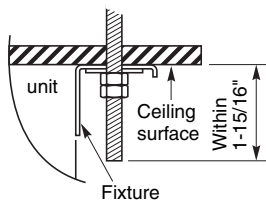
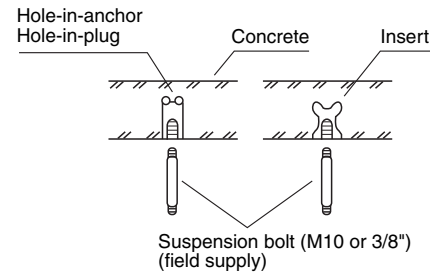

Fig. 3-134
Fig. 3-132
- (2) Drill holes at the 4 points indicated on the full-scale diagram.
- (3) Depending on the ceiling type:
- a) Insert suspension bolts as shown in Fig. 3-132.
- (4) Screw in the suspension bolts, allowing them to protrude from the ceiling as shown in Figs. 3-132 and 3-133. The distance of each exposed bolt must be of equal length within $1-15/16$ ". (Fig. 3-134)